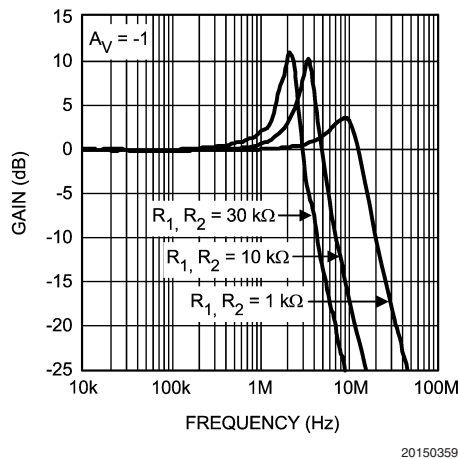

FIGURE 3.
As shown in Equation (2), as the values of R_1 and R_2 are increased, the magnitude of the poles are reduced, which in turn decreases the bandwidth of the amplifier. Figure 3 shows the frequency response with different value resistors for R_1 and R_2 . Whenever possible, it is best to choose smaller feedback resistors.